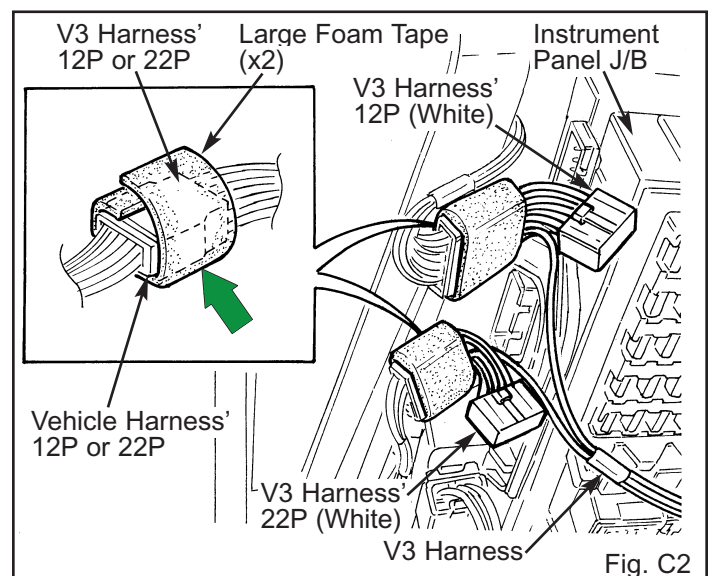

Fig. C2
2. Plug in the V3 harness' white 22P connector between the vehicle harness' white 12P connector and the Instrument Panel J/B. (Fig. C2)
3. Plug in the V3 harness' white 12P connector between the vehicle harness' white 12P connector and the Instrument Panel J/B. (Fig. C2)
4. Wrap the white 22P connectors with one large strip of foam tape. (Fig. C2)
5. Wrap the white 12P connectors with one large strip of foam tape. (Fig. C2)